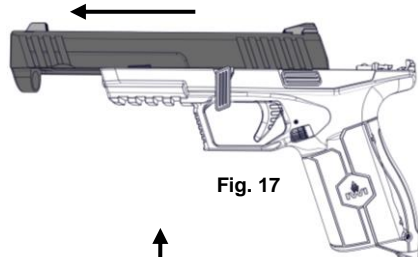

Fig. 17
4. Release the slide and slowly pull the slide forward from the frame - carefully, as it is under tension from the recoil spring (Fig. 17).